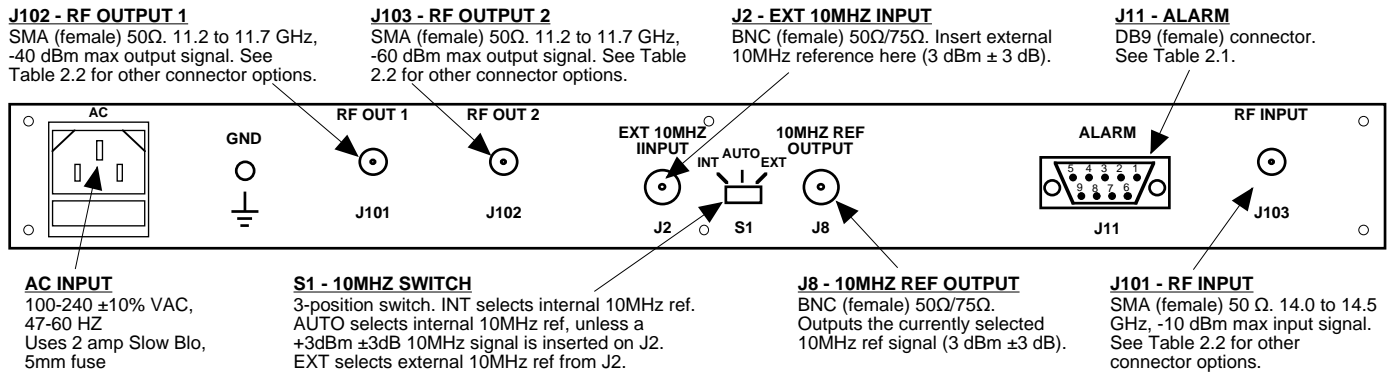

FIGURE 2.1 2116-14T17 Rear Panel I/O's
Figure 2.1 shows the input and output connectors on the rear panel.
1. Connect a -30 dBm to 0 dBm signal to RF INPUT (J101) (Figure 2.1).
5. Select either INT (for internal 10MHz ref), AUTO (for internal 10MHz ref UNLESS an external 10MHz, 3 dBm signal is connected to J2), or EXT (for external 10MHz, 3 dBm ref that is inserted at J2) using the rear panel 3-way switch, S1 (Figure 2.1).
7. Check that a 10MHz, 3 dBm \pm 3 dB signal is present at the 10MHZ REF OUTPUT (J8) (Figure 2.1).